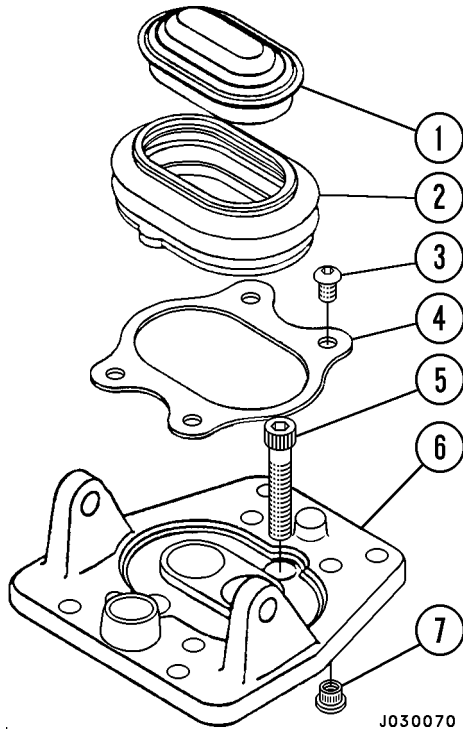
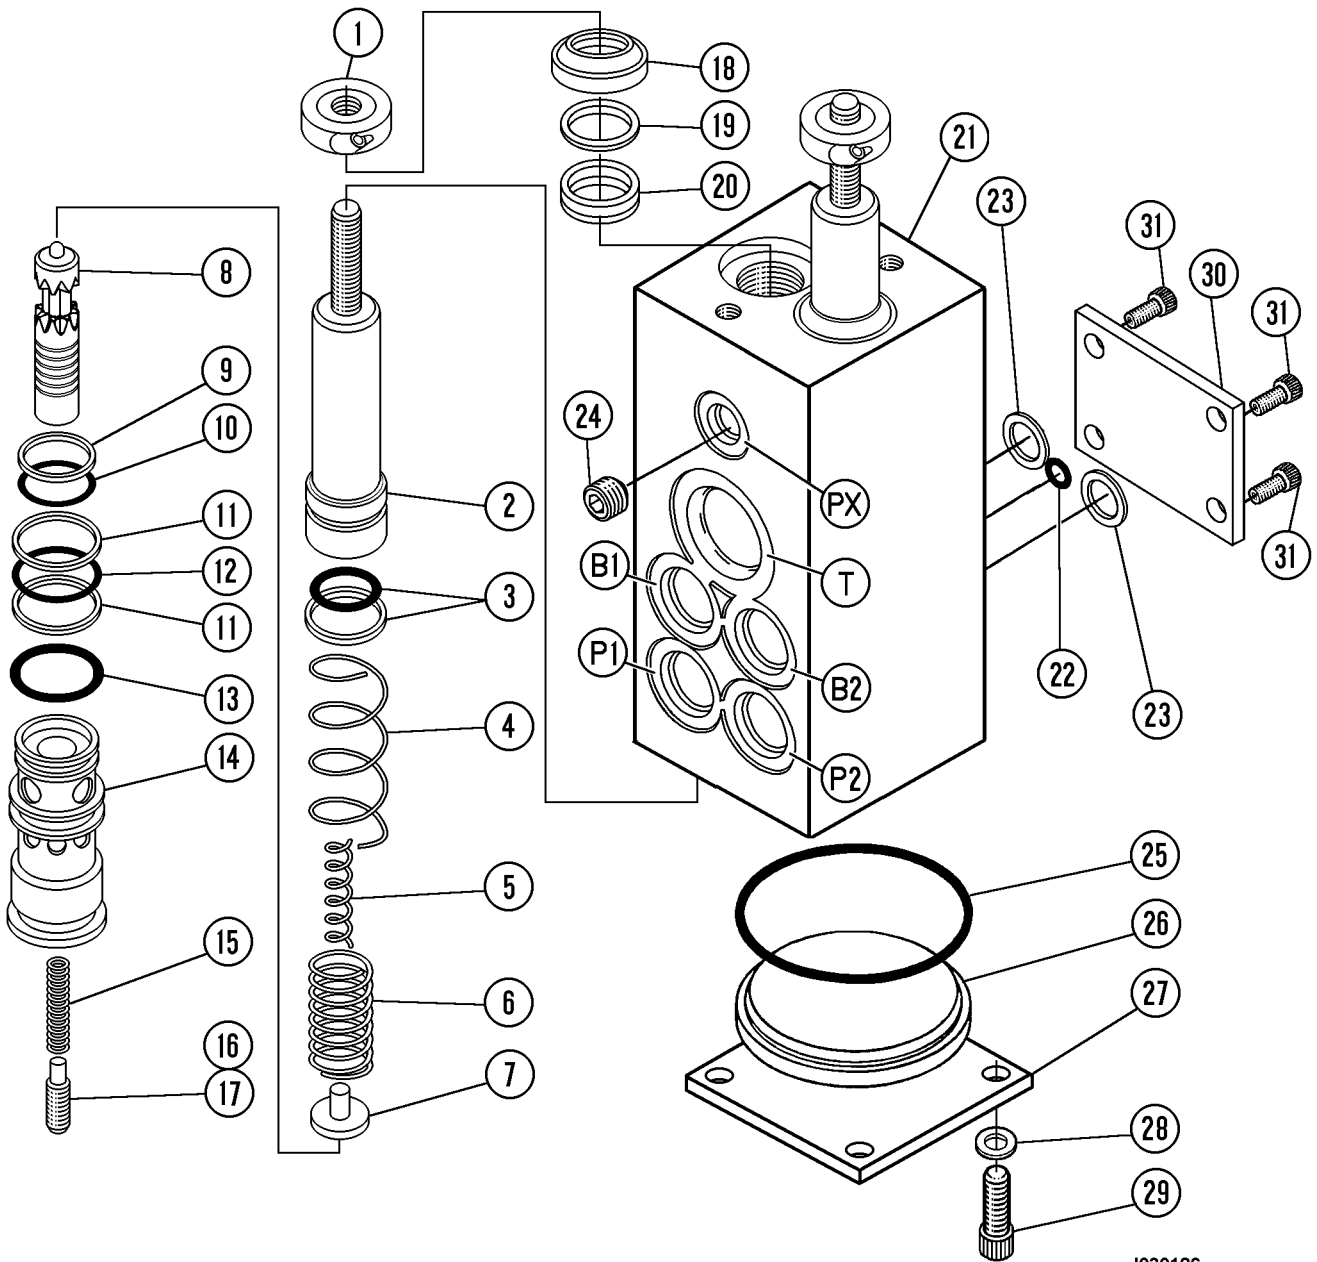

FIGURE 3-4. ACTUATOR CAP & BOOT
FIGURE 3-5. BRAKE VALVE
6. Remove four button head allen screws (3, Figure 3-4) that secure boot retainer plate (4).
7. Remove boot retainer plate (4), boot (2), and actuator cap (1) as an assembly by grasping the boot and gently lifting it from the valve body.
8. Remove capscrews (31, Figure 3-5) and plate (30).
9. Remove and discard O-ring (22) and face seals (23).
10. Loosen the locknuts on actuator plunger (2). Loosen the socket head capscrew from adjustment collars (1).
12. Remove two socket head capscrews (5, Figure 3-4) that retain actuator base (6) to the valve body.
15. Remove four capscrews (29, Figure 3-5) and washers (28) from the base of the valve.
16. Remove base plate (27).
17. With the valve upright, retaining plug (26) should fall out. If the plug does not fall out, lightly tap the valve body to dislodge the plug.
2. Inspect plunger (2, Figure 3-5) for wear on the sides where it moves through the seals. If axial grooves are seen or if any wear is apparent, replace the plunger.
3. Place regulator spool (8) into its sleeve (14). Push the spool lightly through the sleeve. The spool must be able to move freely and smoothly the entire length of the sleeve. If it cannot, it must be replaced. Never replace just the spool or sleeve. They must be replaced as a matched set.
5. Inspect threaded inserts (7, Figure 3-4) in actuator base (6). If any of the threads are damaged, the inserts must be replaced.
1. If any threaded inserts (7, Figure 3-4) were removed from actuator base (6), position the actuator base upside down on the work bench and support it directly under each of the four mounting holes.
1. Examine boot (2, Figure 3-4) for any cracks, tears, or other damage. If damage is evident, the boot must be replaced.
2. If damaged, remove the boot from actuator cap (1) and discard the old boot. Thoroughly clean the sides of the cap by using a knife or suitable scraper to scrape the lip where the cap contacts the boot. Clean the cap thoroughly to remove all adhesive or particles of the old boot.
1. Install an O-ring (3, Figure 3-5) into the O-ring groove located at the large diameter end of actuator plunger (2).
2. Install a split Glyde ring (3) over the O-ring. Twist and squeeze the split Glyde ring into a small circle before installing it to ensure a tight fit over the O-ring.
1. Lightly lubricate actuator plunger Glyde ring (3, Figure 3-5).
4. Install the plunger return spring (4, Figure 3-5), regulator springs (5) and (6), and spring seat (7) into the appropriate circuit. If spring seat does not seat correctly on top of the control spring, lightly shake the valve to correctly position the spring seat.
5. Lightly lubricate regulator spool (8).
6. Install the regulator spool into the regulator sleeve (14). The spherical end of the spool should be at the top of the regulator sleeve. The top of the sleeve is the end with the smallest outside diameter.
10. Lightly lubricate O-rings (10), (12) and (13) on the regulator sleeve.
12. Install spool return spring (15) into regulator spool (8).
13. Insert reaction plunger (16) or (17) into the regulator spool.
14. Install regulator spool (8) into regulator sleeve (14).
16. Lightly lubricate large retainer plate O-ring (25) and install it into the counterbore in the bottom end of the valve.
17. Install retainer plug (26) into the counterbore on the bottom of the valve. Make sure that the steps on the retainer plug are facing the counterbore or toward the top of the valve.
18. Install base plate (27) on top of the retainer plug. Tighten four allen screws (29) evenly, alternating diagonally, in order to evenly seat the regulator sleeve assembly. Then tighten the screws to a final torque of **16 - 17 N·m (140 - 150 in lb)**.
19. Using a new O-ring (22, Figure 3-5) and seal (28), install plate (30) on valve body.
21. Screw adjustment collars (1, Figure 3-5) onto the top of actuator plungers (2). Screw them all the way down until they bottom on the threads.